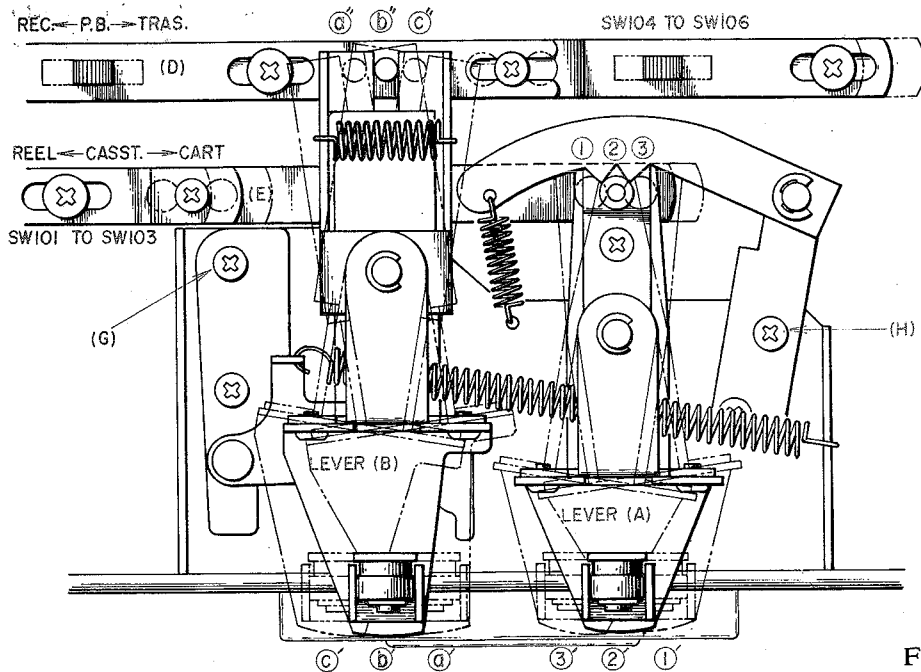

Fig. 9 (B)
(1) RECORDING, PLAYBACK, AND TRANSFER MECHANISMS (SEE FIG. 9 (A) (B) )